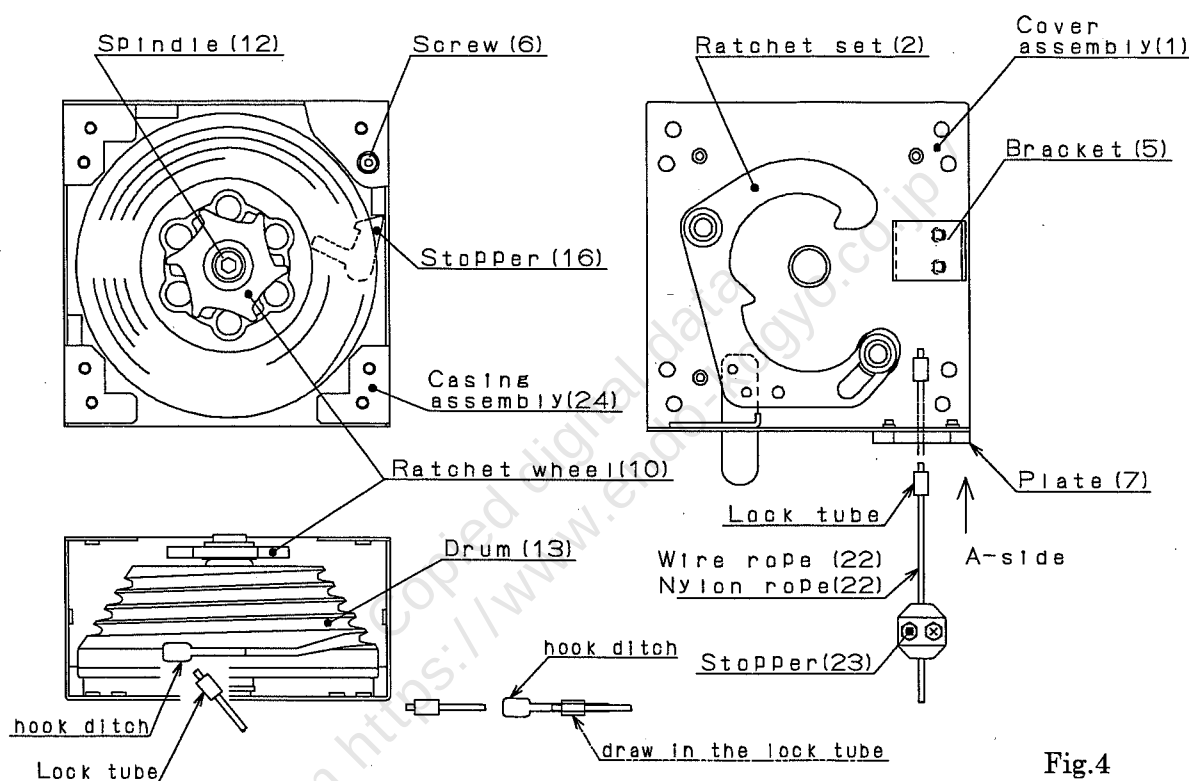

Fig.4
- 2) Remove Hex. Head screw (6) then remove cover (1).
- 4) Insert the lock tube of the new rope from the A side of the plate (1).
Then install lock tube to the hook ditch of the drum (13). (see Fig.4)
- 6) Turn spindle (12) and wind the rope.